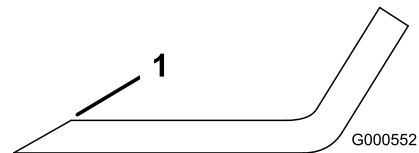

Figure 50
1. Use a file to sharpen the cutting edge at both ends of the blade (Figure 50).
Note: If the blade is not balanced, file some metal off the end of the sail area only (Figure 50).